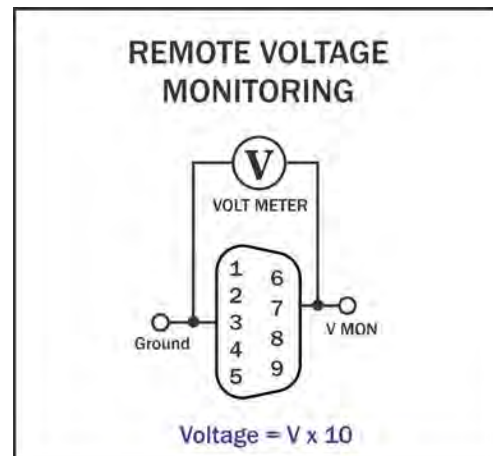

Figure 6.5 – Remote Voltage Monitor
**Method:** Connect a voltage meter to monitor the output voltage being produced by the amplifier. Connect across V MON (PIN 7) and Ground (PIN 3 or 6). See **Figure 6.5**.